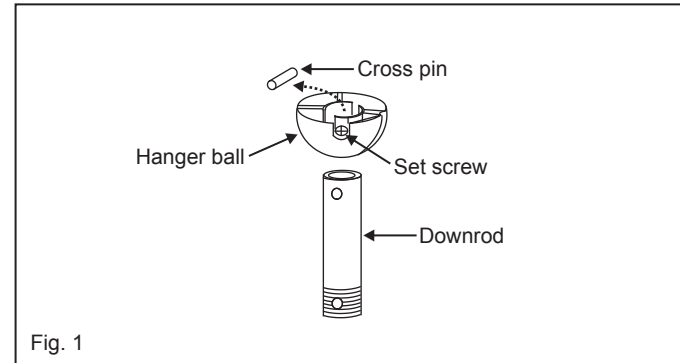

Fig. 1
- 1 Remove ball from downrod by loosening set screw in the side of the ball. Slide ball down and remove ball pin; remove ball. (Fig. 1)
1. Insert the receiver into the ceiling mounting bracket with the flat side of the receiver facing the ceiling. (Fig. 1) For best performance, make sure the Black Antenna and WiFi Antenna, on the end of the receiver, remains extended and not tangled with any of the electrical wires.